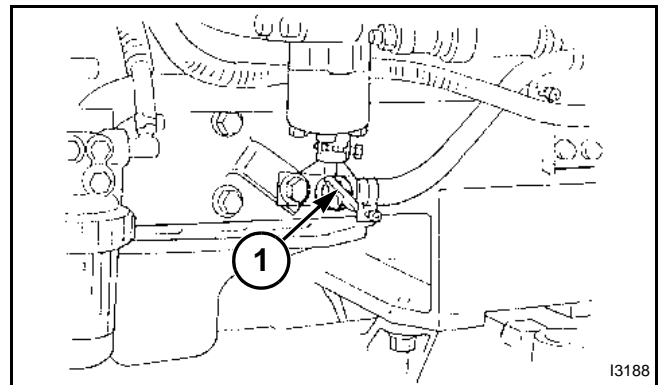

FIG. 2
FIG. 2: Drain cock (1) will drain coolant from cylinder block and radiator. Drain cock is located on right side of engine. Coolant must be replaced if the coolant becomes contaminated with rust or sludge. Loosening radiator cap will assist draining.